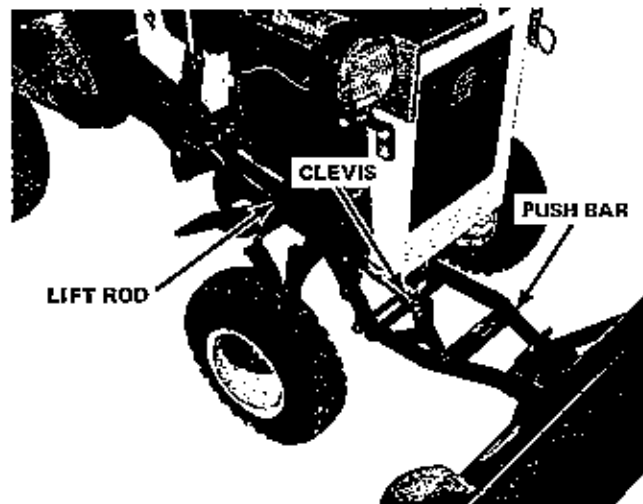

FIGURE 2
3. Insert the lift rod end into the lift lever hole and secure with a spring clip. Attach the rod clevis to the push bar upright arm with the remaining pin and spring clip. (See Figure 2)